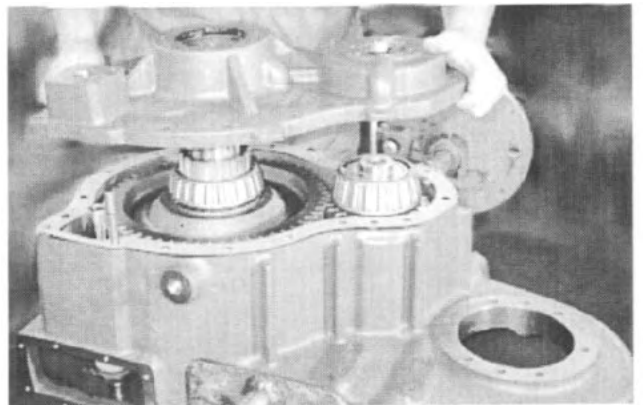

Fig. 65
9. If removed during disassembly, install two (2) new short dowel pins into the transfer case housing. Place a new rear carrier gasket onto the machine surfaces of the transfer case housing. Install the rear carrier, with bearing cups, onto the transfer case. Make sure the shifter shaft fork assembly is properly aligned. See Fig. 65.